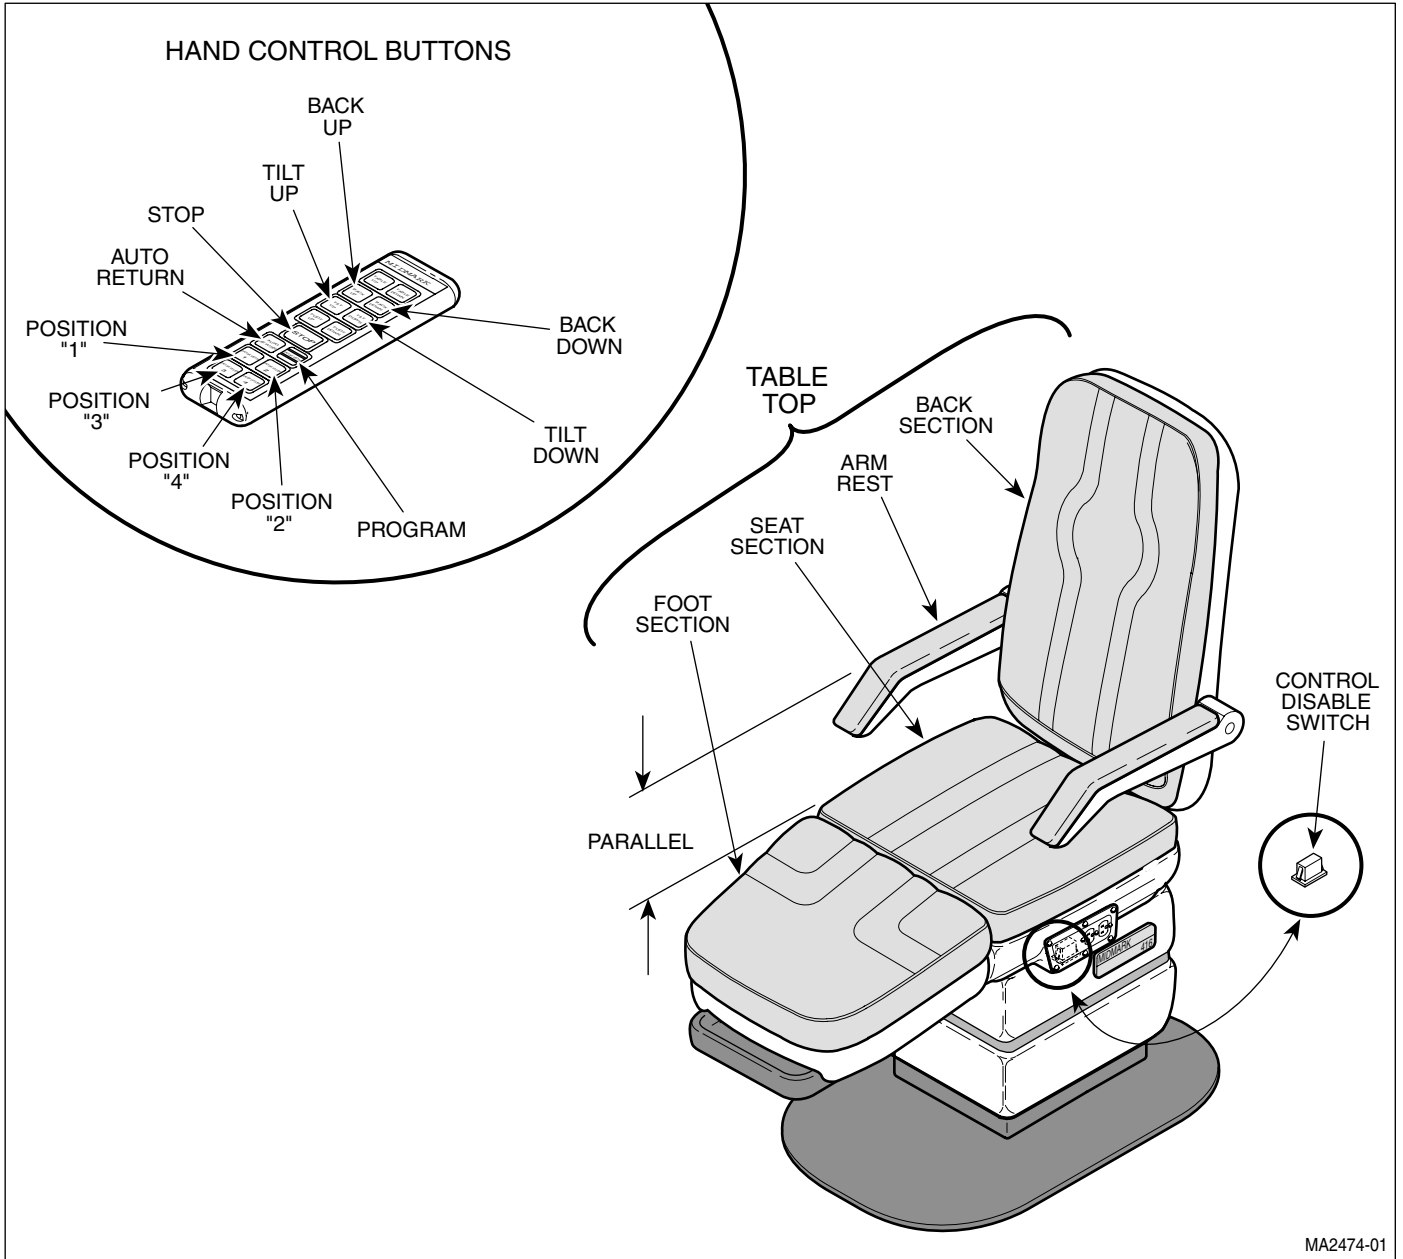

Figure 2-1. Operational Test
2.1 Operational Test (See Figure 2-1)
- (2) Switch the CONTROL DISABLE switch to the disable position (See Figure 2-1).
- (3) Depress BACK UP, BACK DOWN, TILT UP, and TILT DOWN buttons on hand control.
- (4) Observe. No functions should operate.